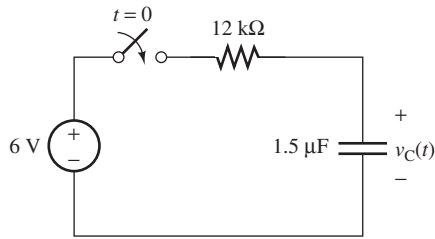

FIGURE P5.4 Circuit for Problem 5.4.
- 5.4 (A) Find the value of $v_C(t)$ in Figure P5.4 at $t = 42 \text{ ms}$. $v_C(0) = 0$. (The switch closes at $t = 0$.)